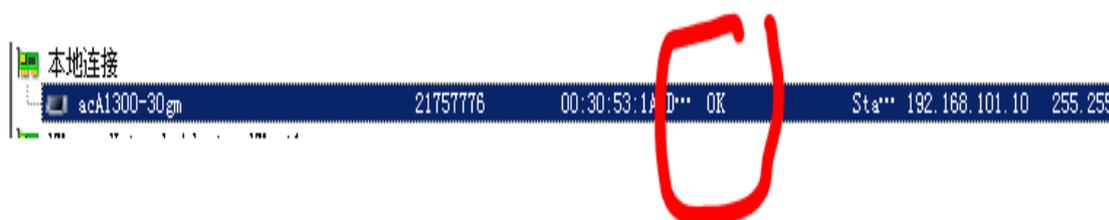

Figure 68
9. Click 'save' after setting completed, and click 'Refresh' button; if camera status is as shown in figure 68, that means camera IP address setting is completed; otherwise, pls re-check and confirm whether the local connection IP address and camera IP address are in one segment; if not, pls reset it according to the procedure above.